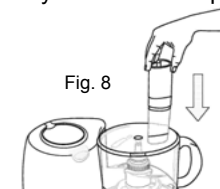

Fig. 8
7. Keep hands and utensils away from the cutting blades while chopping food to reduce the risk of severe injury to persons or damage to the food processor. A scraper may be used, but **ONLY** when the food processor is **NOT** running and has been unplugged. **Never** feed food by hand. Always use the food pusher. (Fig. 8)